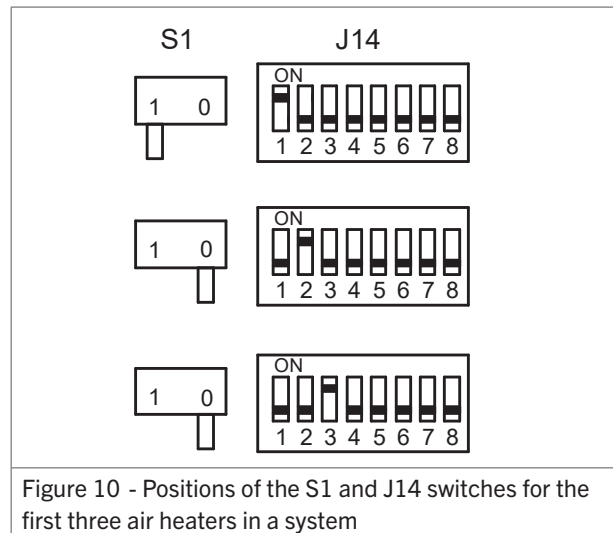

Figure 10 - Positions of the S1 and J14 switches for the first three air heaters in a system
1. Set the S1 and J14 switches on the control unit as follows (figure 10):